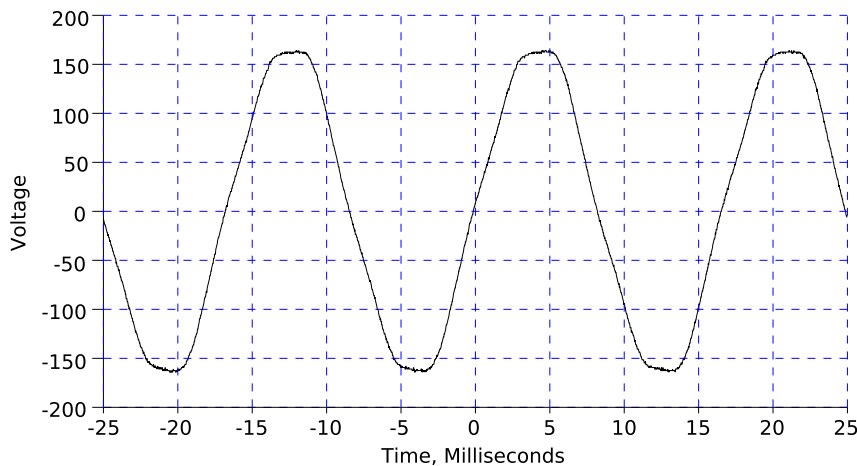
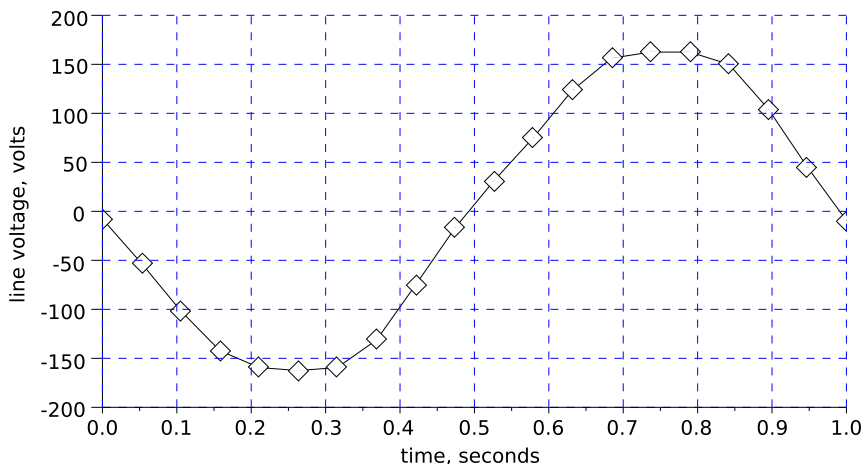

Figure 9: Example power line noise.
Figure 12: Example power line signal, subsampled.
Wrong. Figure 9 on page 11 shows a snapshot that I collected of the line voltage at my house. It's probably typical of the power that you'll see in North America — it's nominally
For instance, if we choose to sample the 60Hz waveform in Figure 9 on page 11 at 19Hz, then we can find that $M = 3$, $P = 3$, and $N = 19$. Thus, we should be able to build up a picture of the 60Hz power line voltage in 19 samples, or just under one second. The correct order of the k^{th} sample in this sample set will be
Figure 12 on page 14 shows the waveform in Figure 9 on page 11 after it's been sampled at 19Hz and reordered according to (9). The resulting waveform repeats at slightly less than 1Hz instead of 60, but it faithfully replicates the original waveform as faithfully as sampling it at 1140Hz ($19 \cdot 60\text{Hz}$) would have¹⁰.